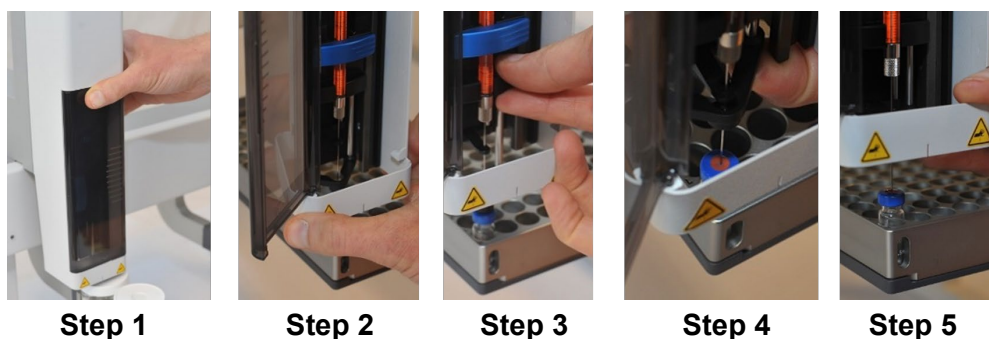

Figure 52: Autosampler Configurator/Teaching Sample Tray
3. Move the tower of the autosampler to the sample tray (**Figure 52, Step 1**).
4. Position the tower above the reference vial. For example the vial at the left-front position (**Figure 52, Step 2**).
5. Take the syringe holder between two fingers and move it downwards (**Figure 52, Step 3**).
6. Push the needle guide upwards and check if the needle is positioned in the middle of the vial (**Figure 52, Step 4**).
7. Move the tower to position the needle in the middle of the vial (**Figure 52, Step 5**). Note take care to prevent damage to the needle.